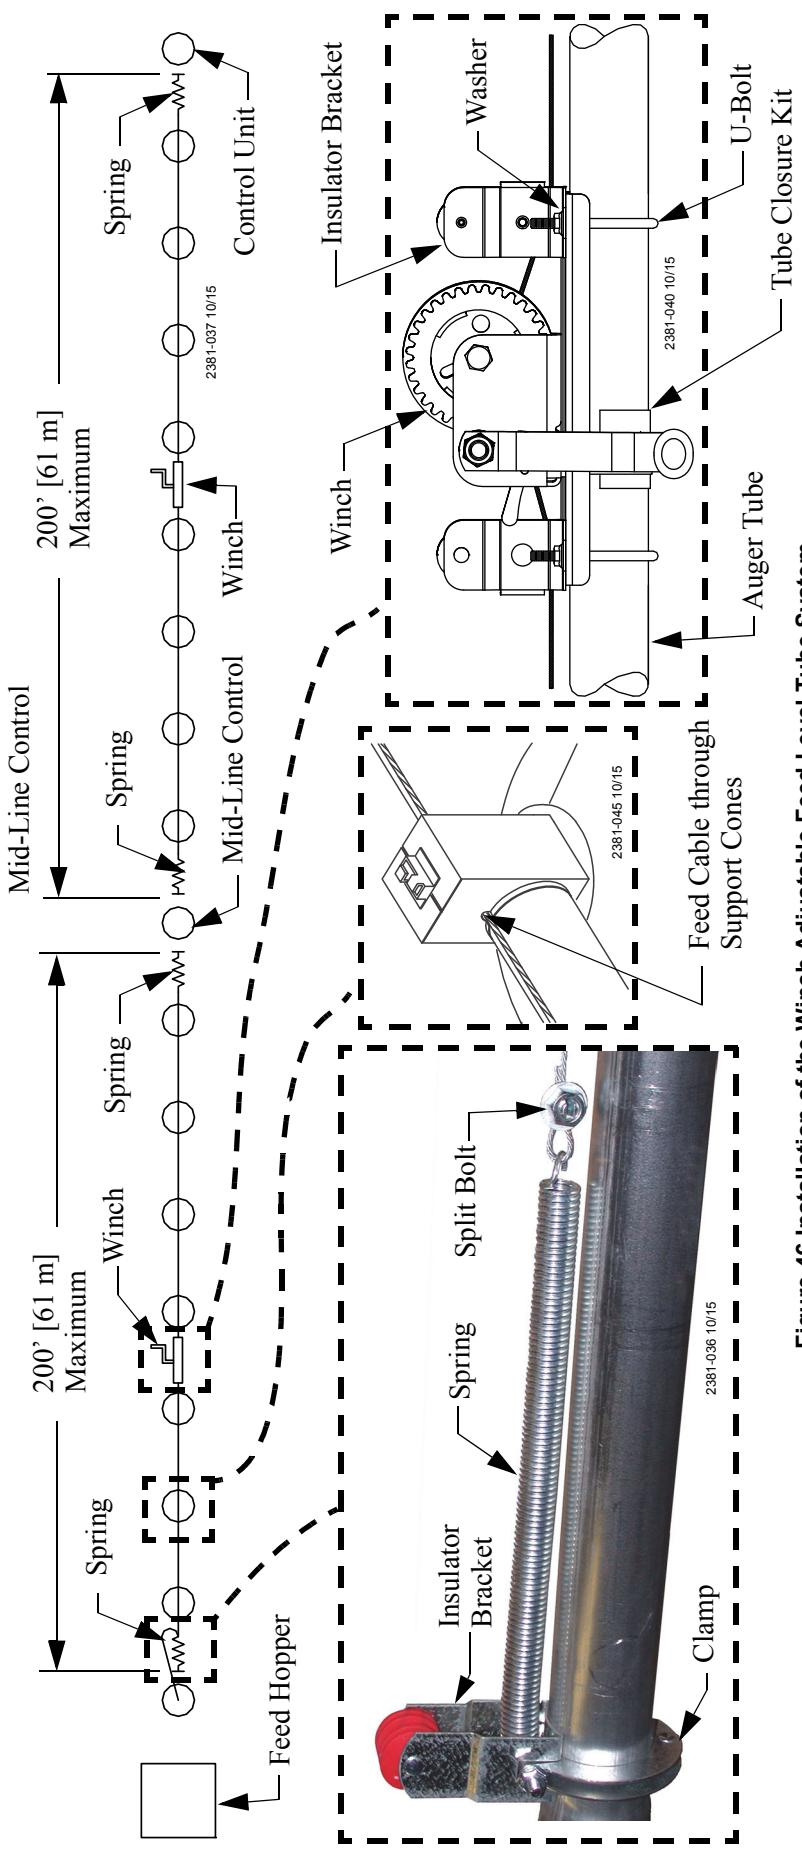

Figure 46. Installation of the Winch Adjustable Feed Level Tube System
Chore-Time's Adult Turkey Feeder can be equipped to provide winch adjustable Feed Level Cones. New systems can be ordered with this feature. Existing systems can be (easily) upgraded to include feed level cone winching components. The Feed Level Cones are adjusted using a Winch and cable. The maximum line length for each Winch is 200' [61 m]. The Winch should be located in the middle of the line of Feeders it is to adjust, See **Figure 46**. The Feed Level Cones are winched up to flood the Pans with feed to allow maximum access to the feed for young turkeys. As the birds grow the Feed Level Cones can be lowered to reduce the feed level.
1. Install a Spring at one end of the Feeder Line and attach the end of the Cable to it as shown in **Figure 46**.
2. Use two U-bolts provided to fasten the winch to the Feeder Line Tube, See **Figure 46**. The winch should be placed in the center of the line of Feed Level Cones it will adjust, as shown in **Figure 46**.